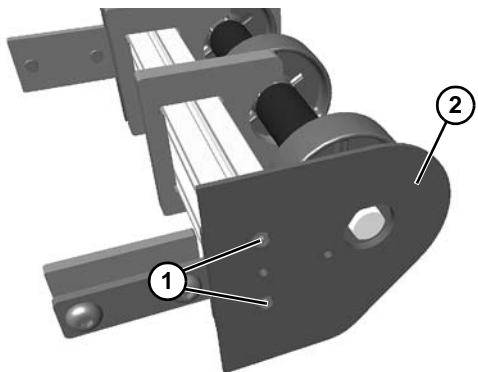

Figure 94
9. Remove two flat head screws (**Figure 94, item 1**) on filler plate (**Figure 94, item 2**) on each side of idler tail assembly.